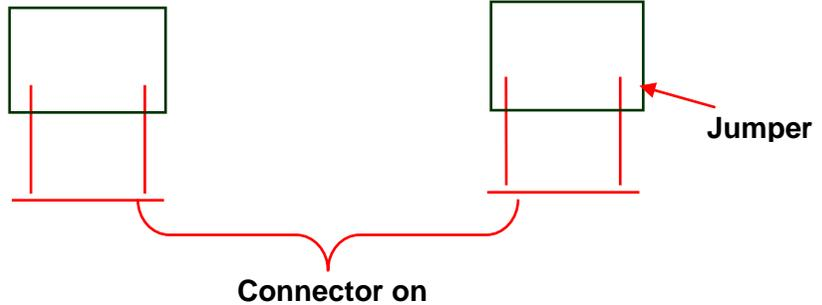

Figure 85
12. Turn back Black Jumper on the MB to its default position and put it on one pin , so one leg is open and there is no short between 2 legs (Figure 85).